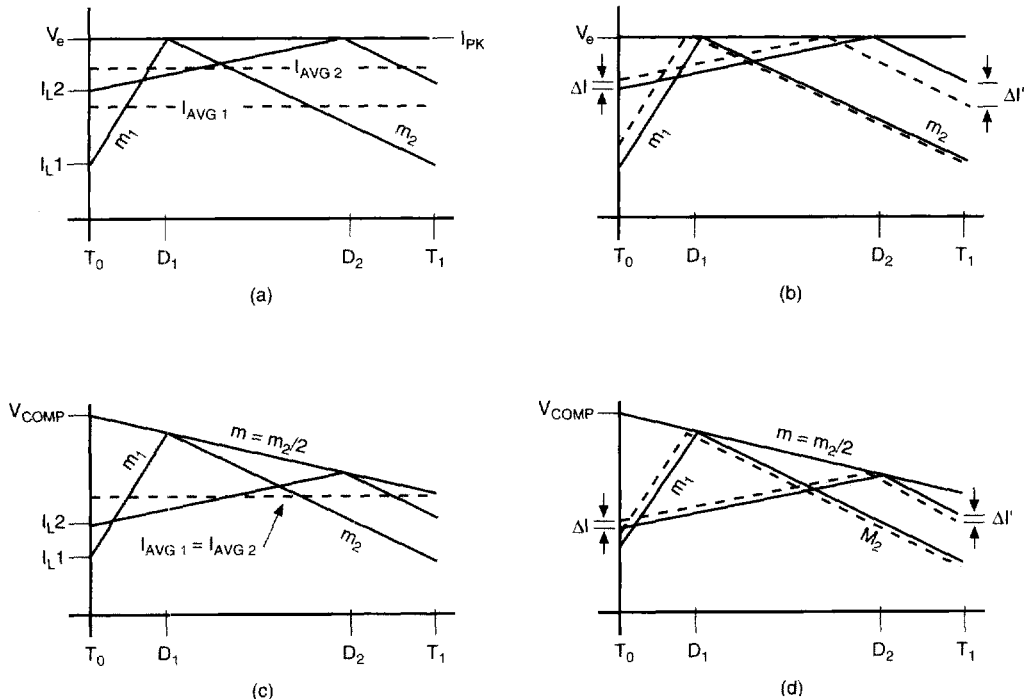

Figure 22. Slope Compensation
graphically in Figure 22.
First, current-mode controllers detect and control the peak inductor current, where as the converter's output corresponds to the average inductor current. Figure 22(a) clearly shows that the average inductor current (I_1 & I_2) changes as the duty ratio (D_1 & D_2) changes. Note that for a fixed control voltage, the peak current is the same for any duty ratio. The difference between the peak and average currents represents an error which causes the converter to deviate from true current-mode control.
Second, Figure 22(b) depicts how a small perturbation of the inductor current (I) can result in an unstable condition. For duty ratios less than 50 %, the disturbance will quickly converge to a steady state condition. For duty ratios greater than 50 %, I progressively increases on each cycle, causing an unstable condition.
Both of these problems are corrected simultaneously by injecting a compensating ramp into either the control voltage (V_E) as shown in Figure 22(c) & (d), or to the current sense waveform at pin 3. Since V_E is not directly accessible, and, a positive ramp waveform is readily available from